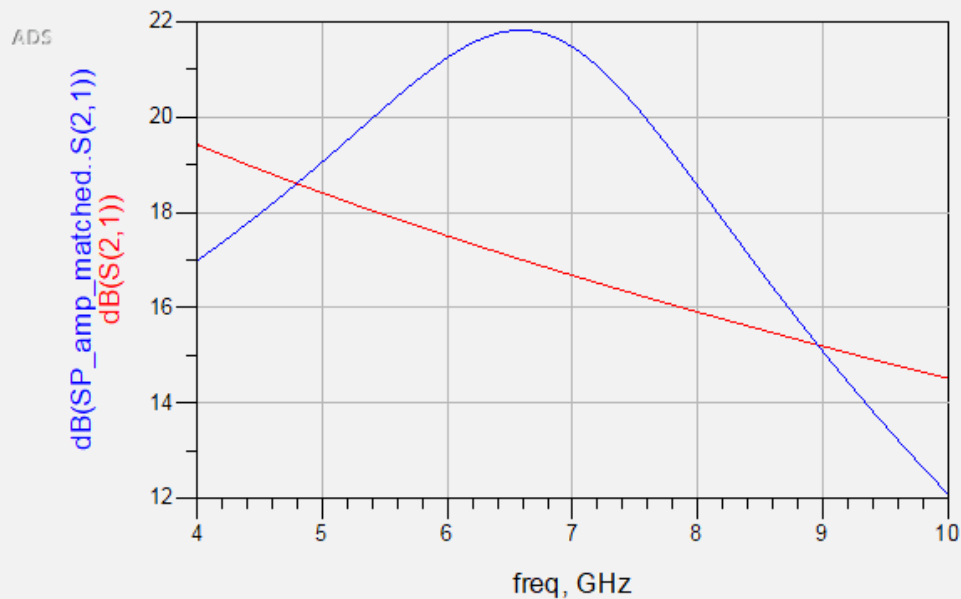

Figure 28. Plot comparing S(2,1)
5. Insert a rectangular plot. Add S(2,1) from the **SP_amp** dataset and compare to the S(2,1) from the **SP_amp_matched** dataset. Figure 28 shows about a significant improvement in the gain by adding a matching network.